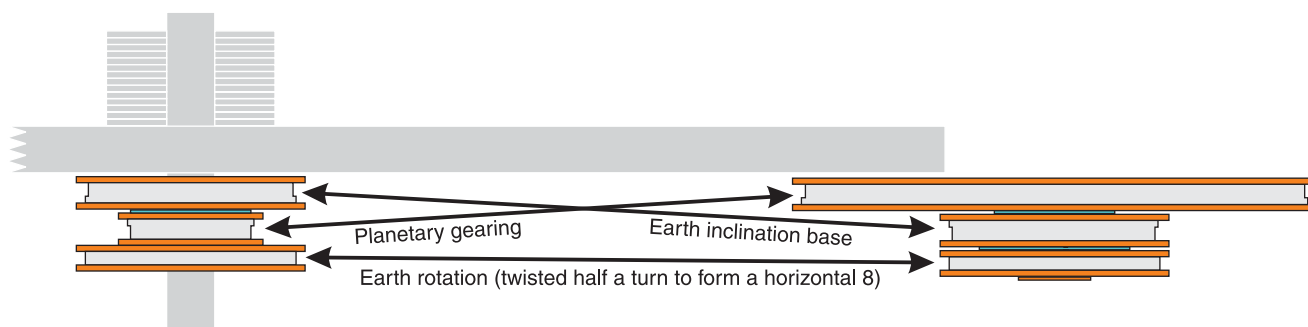

Figure 12: Drive belt installation below the ecliptic disc
Step 79: Install the planetary gearing on the ecliptic disc rim. Pull one of the two smaller, thin rings onto the earth inclination driving wheel, which is connected to the underside of the ecliptic disc. Then pull the belt on the second runner from the bottom on the planetary gearing; this one is connected to the earth inclination base. Lay the other, smaller ring on the small groove wheel at the top of the central shaft and pull it on the large planetary gearing runner. Be aware that these two belts change levels as they run from driving wheel to runner; they cross over when looked at from the side (see fig. 12).